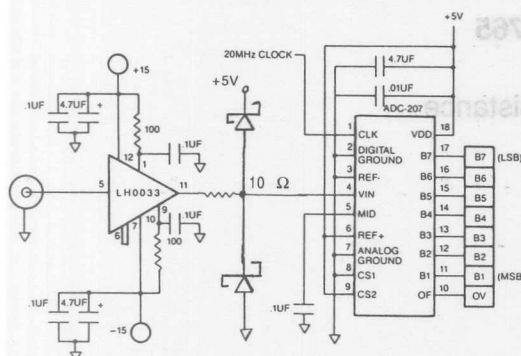

Figure 2. Typical Connections for Using the ADC-207
1. Input Buffer Amplifier—Since the ADC-207 has a switched capacitor type input, the input impedance of the 207 is dependent on the clock frequency. At relatively slow conversion rates a general purpose type input buffer can be used; at high conversion rates DATEL recommends either the HA-5033, the LH-0033 or Elantec 2003. See Figure 2 for typical connections.